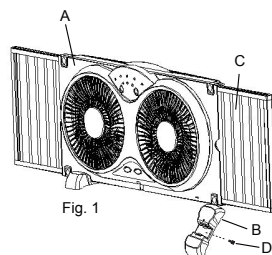

Fig. 1
- Push the feet (B) into the fan body (A) and snap together. (Fig. 1). Fasten the two screws (D) from the bottom of the feet.